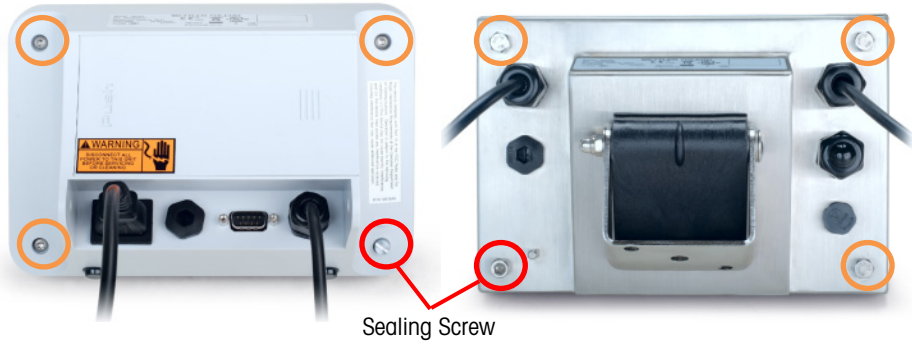

Figure 2-2: Opening the Enclosures – IND231 (left) and IND236 (right)
2. For IND236, use a 10mm socket wrench to loosen three of the screws. Use a 5mm Allen Head insert screwdriver to loosen the sealing screw, indicated in Figure 2-2. Note that the screws are captive, and remain attached to the rear cover of the IND236.